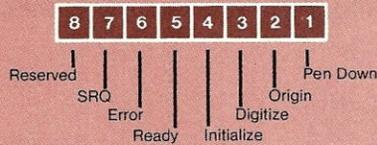

Figure 7. Digital voltmeter and plotter status bytes.
Before we run the program, we must set up the instruments and learn how to talk to them. We set the rear panel switches to addresses 10 for the DVM and 20 for the plotter. This gives us a listen address of "*" for the DVM and a talk address of "J". The plotter has a listen address of "4" and a talk address of "T". As we will want to perform serial polls, we need to know the instrument's status bytes are defined; these are shown in Figure 7. Each of the instruments allows the user to determine which status functions will result in a service request. The devices have a status mask for this purpose; it is programmed at the beginning of bus operations. Finally, we need to know how to send and receive data from the DVM and the plotter; that is, we need to know the format and syntax of the messages. The DVM data message consists of 14 bytes:
As can be seen, programming the system is straightforward. The first two steps clear the bus and put the voltmeter and the plotter into the remote state; they can now be programmed over the bus. The next three commands could have been lumped together into one long string. First we clear the instruments, returning them to their default modes. We then address the DVM as a listener (40) and lock out its front panel (50, 11H=LLO). Next we program the DVM. We send a string of alphanumeric characters, which program it to measure D.C. volts on the 10V full-scale, hold the trigger, turn off all math functions and the auto zero, and disable EOI. The final five bytes set the status mask to determine which of the items in the status byte will set SRQ. In this case we have set it for DATA READY and ERROR (see Figure 7). The next two steps program the plotter's status mask. We have set it so only an ERROR or OUT-OF-RANGE will set SRQ. We ignore the error and poll bytes.